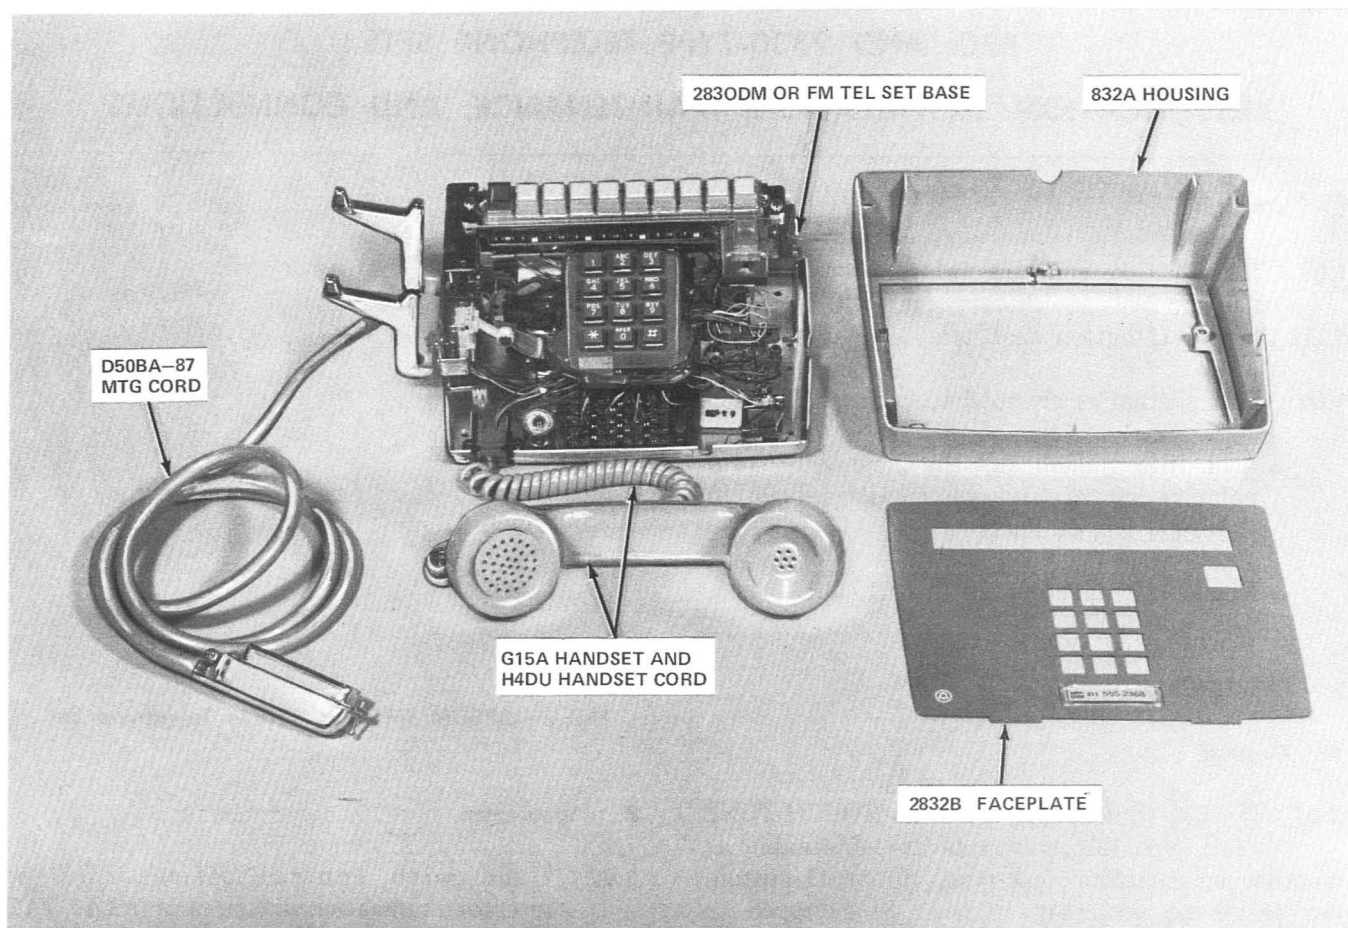

Fig. 3—Station Modular Arrangement 2830DM (MD) or 2830FM Telephone Set
**3.01** Install the completely assembled telephone set or assemble the required components as shown in Fig. 3 and install by plugging into connector cable.